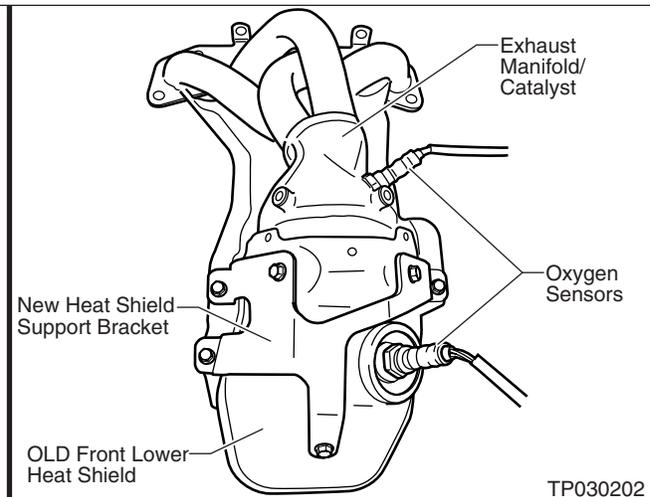

Figure E25b
37. Turn the manifold over (see Figure E25b).
38. Position the old Front Lower Heat Shield onto the manifold, but do not install any screws yet (see Figure E25b).
39. Install the new Heat Shield Support Bracket using six new screws (see Figure E25b).